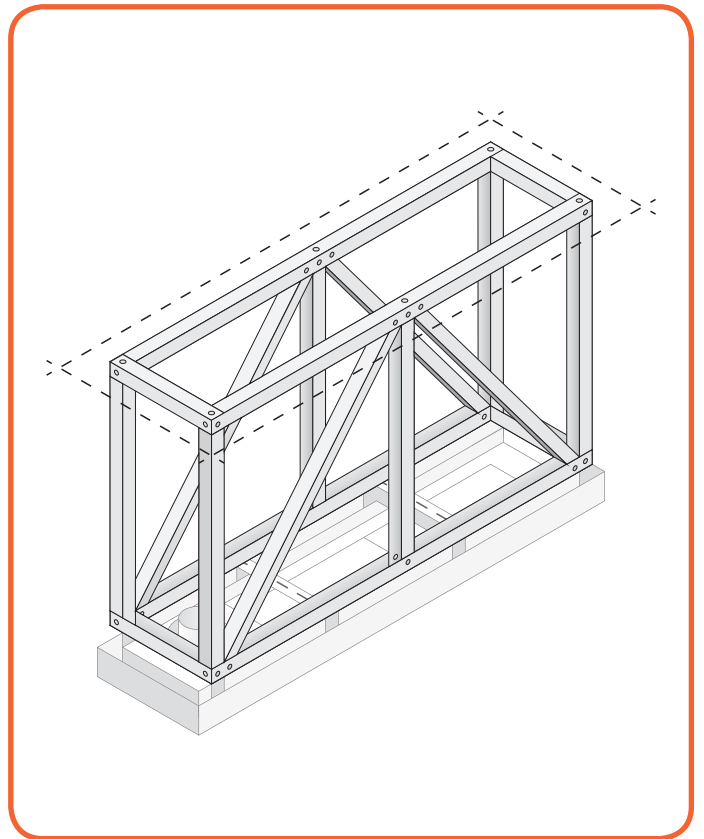

Figure 6.15 -
- Place crossbars between the profiles used for extra support and fixation of the structure. (**Figure 6.15**)